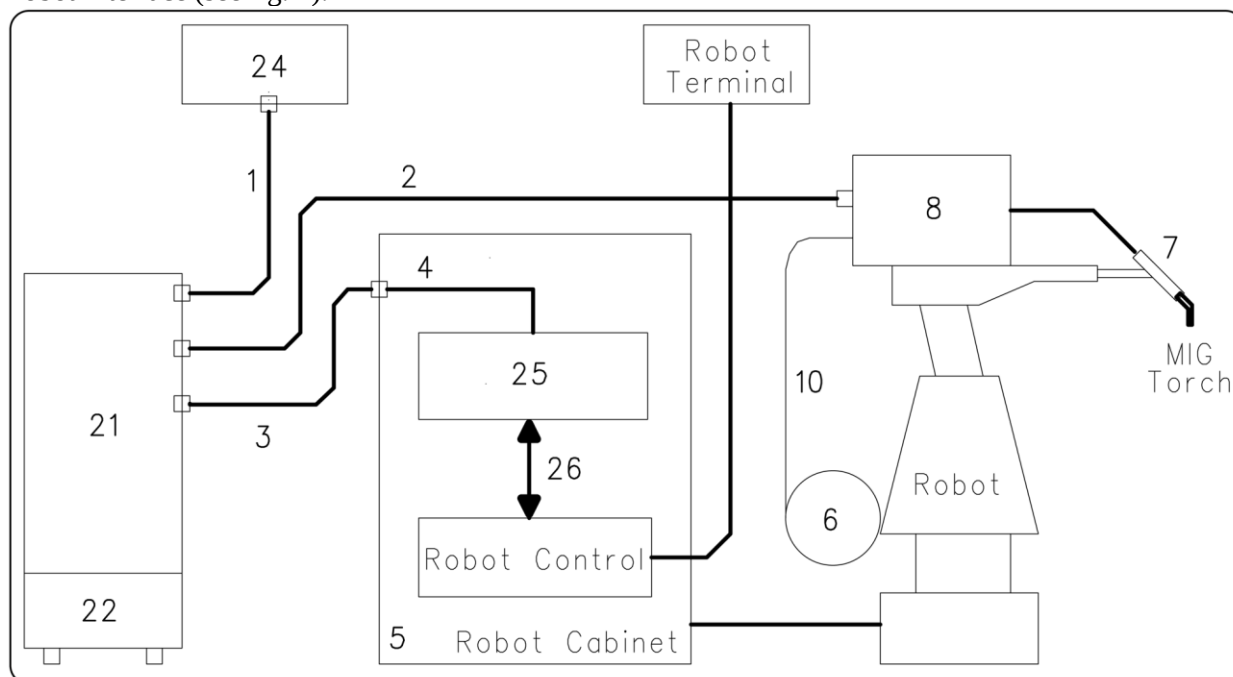

fig. 1
It comprises a power source, possibly equipped with cooling unit, a wire feeder, a control panel and a Robot Interface (see fig. 1).
3.2 **Power Source installation (fig. 1).**